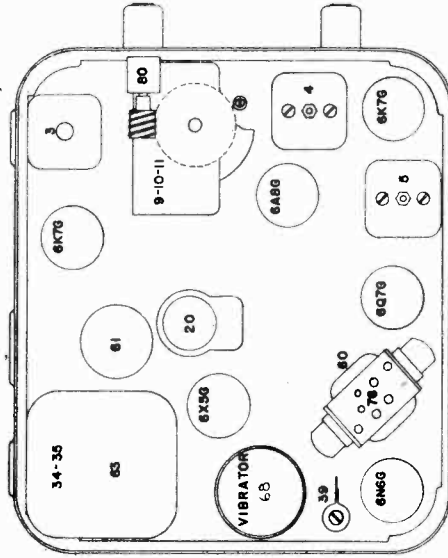

FIG. 2--PARTS LAYOUT--Top View
- (d) Adjust the parallel trimmer for the oscillator section (middle) of the condenser gang (Illus. 11, Fig. 2) for maximum output. (It is very important that this frequency be set accurately as a slight mis-setting will cause the receiver to be out of track over the entire high frequency end of the dial.)